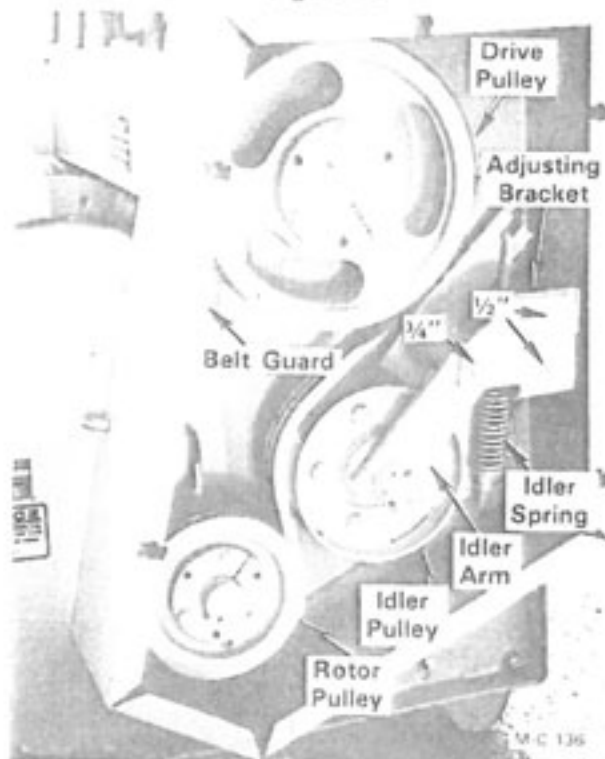

Figure 24 - Model 8HD Shown
1. To check drive belt pulley alignment, remove the belt guard cover and place a straight edge across the face of the drive and rotor pulley, see Figure 24.
idler spring adjustment nut to relieve all spring tension, see Figure 24.